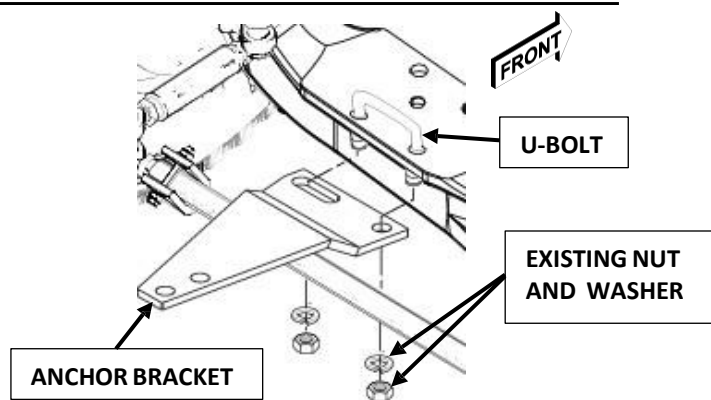

FIGURE 2. ANCHOR BRACKET INSTALL TO AXLE SUSPENSION U-BOLT
- Using a socket wrench with a 1-1/8-inch socket, remove two **existing nuts (and washers if installed)** from axle spring rear **U-bolt** on driver's side of front axle assembly. If **nuts** are difficult to remove, apply penetrating oil lubricant and re-attempt removal using a breaker bar or impact wrench for assistance (Figure 2).
- Using a torque wrench with a 1-1/8-inch socket, install and secure **Anchor Bracket** to existing axle spring rear **U-bolt** with two existing **nuts (and washers if previously installed)** that were removed in step 2, and torque **nuts to a recommended 250 foot-pounds. Be sure to double check your vehicle manufacturer torque specifications of nuts** (Figure 2).